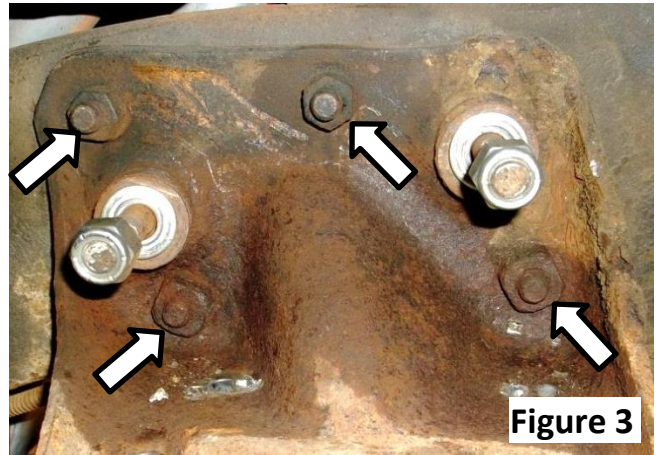

Figure 3
13. Remove the four bolts holding the upper control arm mount to the frame rail and discard. It may be easier to remove the passenger side exhaust header to access the bolts. Factory manifolds should allow sufficient access. See **Figure 3**.